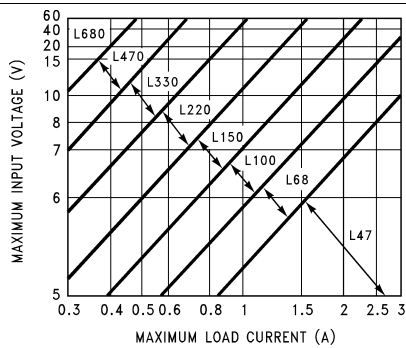
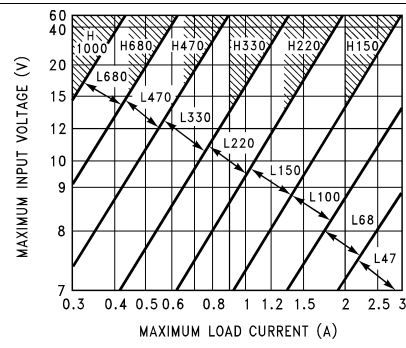
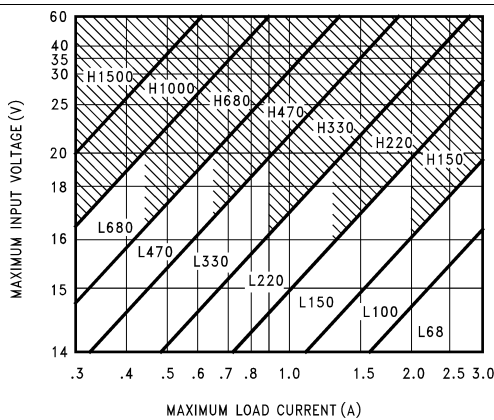

Figure 27. LM2576(HV)-3.3
Figure 28. LM2576(HV)-5.0
Figure 29. LM2576(HV)-12
The inductor value selection guides in Figure 27 through Figure 31 are designed for buck regulator designs of the continuous inductor current type. When using inductor values shown in the inductor selection guide, the peak-to-peak inductor ripple current is approximately 20% to 30% of the maximum DC current. With relatively heavy load currents, the circuit operates in the continuous mode (inductor current always flowing), but under light load conditions, the circuit is forced to the discontinuous mode (inductor current falls to zero for a period of time). This discontinuous mode of operation is perfectly acceptable. For light loads (less than approximately 300 mA), it may be desirable to operate the regulator in the discontinuous mode, primarily because of the lower inductor values required for the discontinuous mode.
1. Select the correct inductor value selection guide from Figure 27, Figure 28, Figure 29, or Figure 30. (Output voltages of 3.3 V, 5 V, 12 V or 15 V respectively). For other output voltages, see the design procedure for the adjustable version. Use the selection guide shown in Figure 28.
3. Identify the inductor value from the inductor code, and select an appropriate inductor from the table shown in Figure 27. Part numbers are listed for three inductor manufacturers. The inductor chosen must be rated for operation at the LM2576 switching frequency (52 kHz) and for a current rating of $1.15 \times I_{LOAD}$. For additional inductor information, see Inductor Selection. Inductor value required is 100 μ H from the table in Figure 27. Choose AIE 415-0930, Pulse Engineering PE92108, or Renco RL2444.